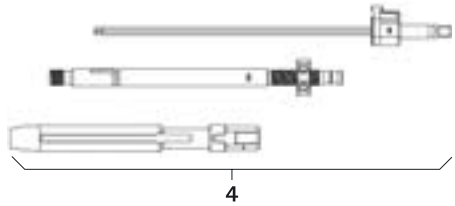

Fig. 6
- Mount reduction lever **4**, see Fig. 6.